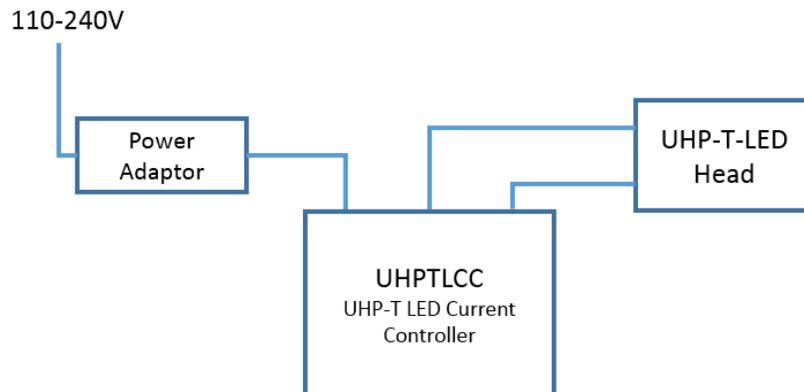

Figure 4: UHP-T LED Illuminator cable connection
3. Connect the LED Control Cable and the LED Current Cable to the UHPTLCC LED current controller and to the UHP-T-LED head (See Figure 4 and 5 below).